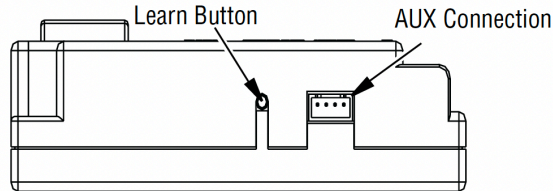

Figure 1- Gas Module Left Side
1. There is a switch located on the right side of the module that reads REMOTE/OFF (**Figure 1**).
- To program the module (make sure the system has power), locate the learn button on left side as shown in **Figure 1**. Press and release the learn button. There will be a beep sound from the module. Then press any button on the remote transmitter. Once the module's internal receiver accepts the transmitter code, there will be a series of confirming beeps.